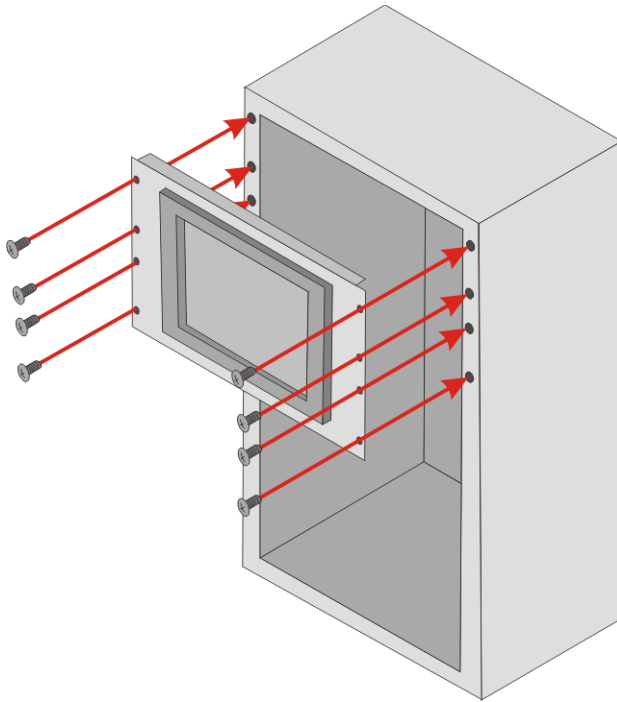

Figure 3-16: Install into a Rack/Cabinet
Step 5: Slide the 2901190/2901200 flat panel PC with the attached rack/cabinet bracket into a rack or cabinet (**Figure 3-16**).
Step 6: Once the 2901190/2901200 flat panel PC with the attached rack/cabinet bracket has been properly inserted into the rack or cabinet, secure the front of the rack/cabinet bracket to the front of the rack or cabinet (**Figure 3-16**).